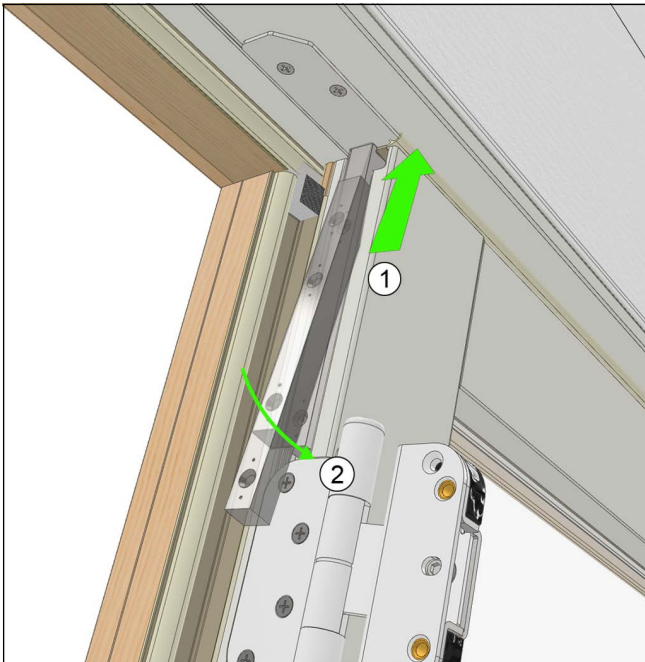

Figure 24
5. Seat the lock bar into the panel Eurogroove and up into the head jamb strike aligning top hole on lock bar to the removed screw hole already in the panel. *Be mindful not to overshoot the bolt as this will cause the head jamb to bow upward.* See Figure 24.